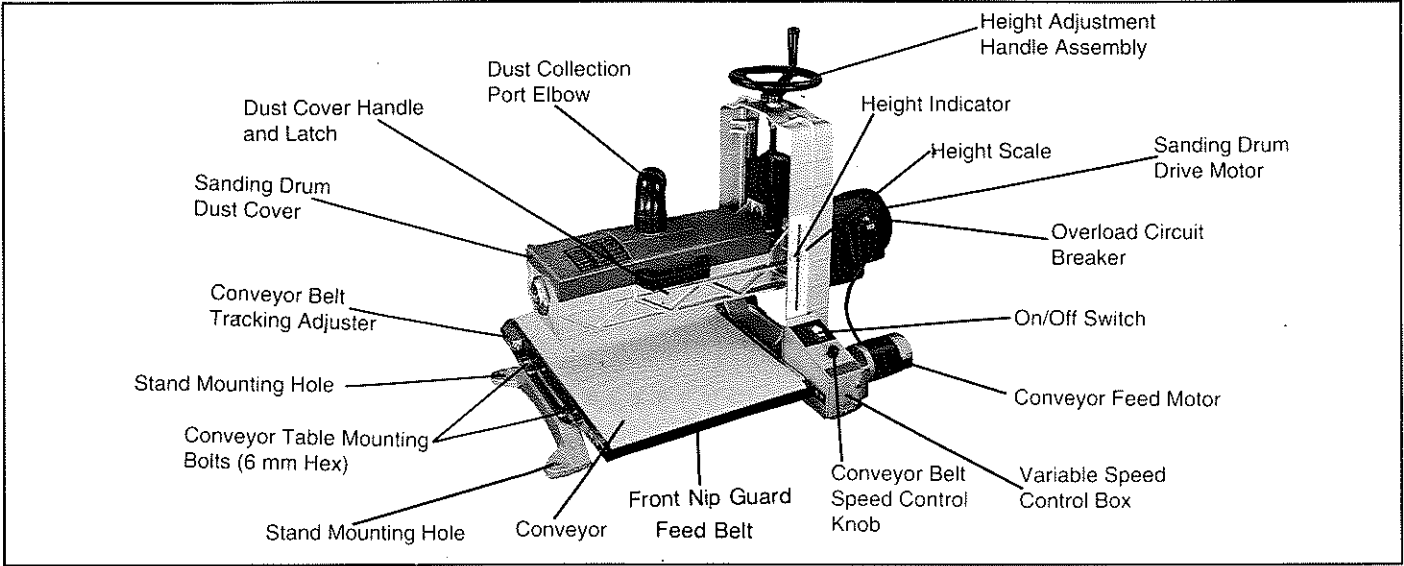

Figure 2
17. **NEVER PUT YOUR FINGERS** into the dust port or under the drum dust cover. (See Figure 2.)
Familiarize yourself with the following components and features of the Wide Drum Sander using Figures 2, 3, and 4 before connecting the power cord or using the tool.
The height of the drum is raised by turning the height control knob (refer to Figure 2) in a clockwise direction. To lower the drum, turn the height control knob in the counter-clockwise direction. The depth of the movement is approximately 1/64" per 1/4 turn in either direction. One complete turn is 1/16" Depth settings can be measured using the depth indicator scale located on the right side of the drum support frame.
5. Reverse the feed direction of the stock on successive passes, while adjusting the depth of cut using the height adjustment handle assembly (refer to Figure 2). Several variables affect the proper depth of cut selected. They are: abrasive grit choice, width of stock, hardness of stock, feed rate, and moisture content of stock.